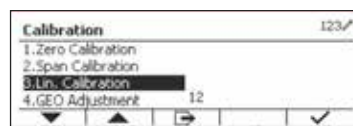

Figure 14
- Press the softkey corresponding to the ✓ icon to enter the Calibration submenu. Scroll to Linearity Calibration using the softkey corresponding to the ▼ icon. (See Figure 14)